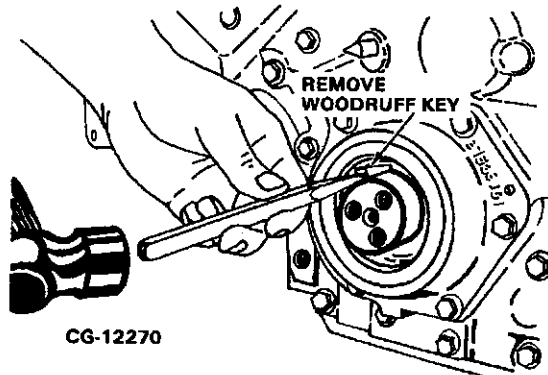

Figure 9.5. Remove Woodruff Key from Crankshaft
2. Using a hammer and chisel, remove the woodruff key from the crankshaft as shown in Figure 9.5.